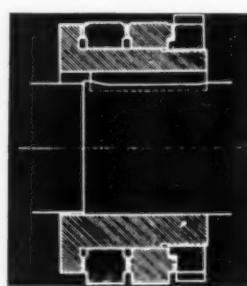
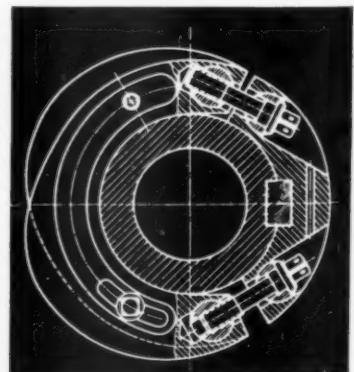

Figure 3. Method for altering pump timing; sleeve is keyed to camshaft and engages with serrations on face of cams.
Figure 4. Method of altering pump timing; part of cam ring is keyed to camshaft and is connected to cam proper by adjusting bolts.
changed. Two design methods to accomplish this are shown in Figs. 3 and 4. In the design shown in Fig. 3, a sleeve is keyed on the cam-shaft, upon which are located the two cams for forward and reverse running. The side faces of the sleeve and also of the cams are machined with fine radial serrations fitting into each other, whereby the relative positions of the cams can be changed in increments of about 2 degs. In the design shown in Fig. 4, the cam ring is composed of two parts, one part being keyed to the shaft, and the other part, the cam proper, being displaceable relatively to the
On the cam-shaft are arranged two cams (1), one for ahead and the other for the astern direction of rotation. The cams are made of two parts in a manner similar to that shown in Fig. 4: one part is rigidly keyed to the shaft and the other, the cam proper, is connected to the fixed part by means of tangentially acting screws and can be adjusted within certain limits for the purpose of setting the beginning of the injection for each cylinder. This setting is carried out when the engine is tested. After the cam is adjusted to the correct setting, no further adjustments are made.